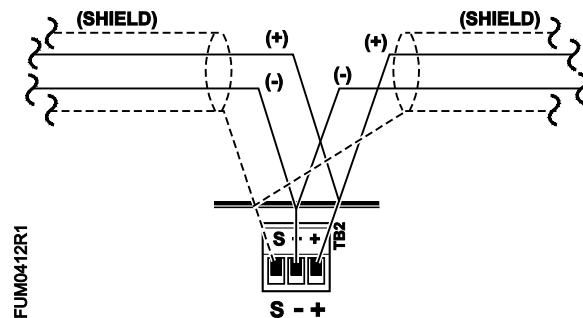

Figure 4. FLN Trunk Wiring.
6. Connect the FLN trunk wiring as shown in Figure 4.